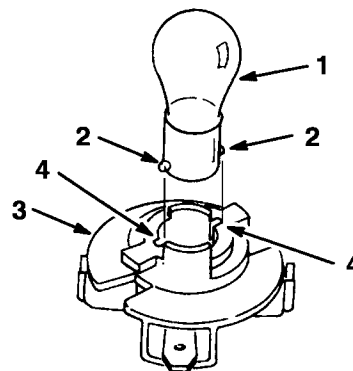

Figure 47
4. Push and rotate the bulb counterclockwise until it stops (approx. 1/4 turn) and remove the bulb from the bulb holder (Fig. 47).
1. The bulb has metal pins on the side of its base. Align the pins with the slots in the bulb holder and insert the base into the holder (Fig. 47). Push and rotate the bulb clockwise until it stops.